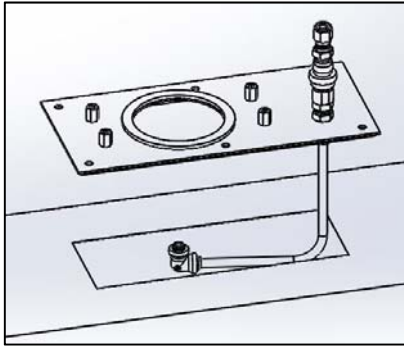

Figure 15
- (5) Remove the base assembly from the carton and align the cut out in the rectangular gasket underneath the base plate with the duct cutout, as shown in Figure 15.